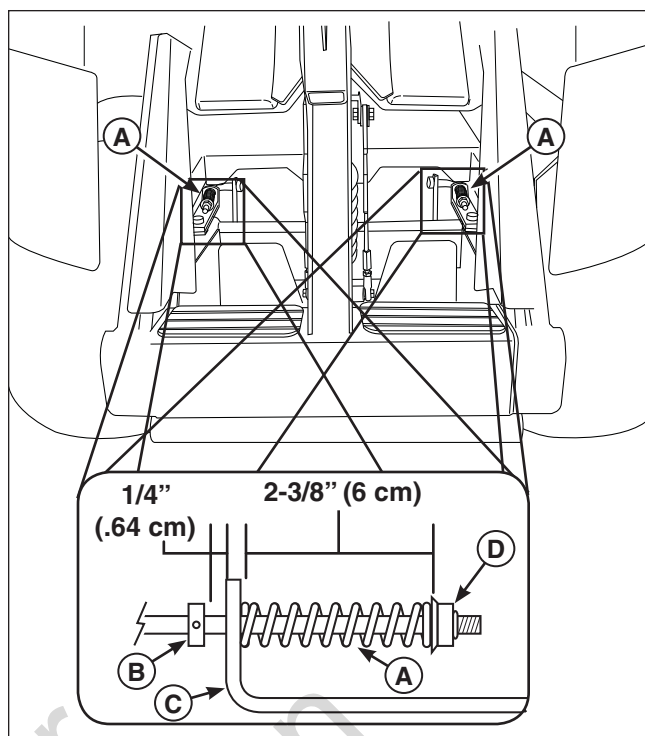

Figure 32. Parking Brake Adjustment
1. Locate the two (2) brake springs (A, Figure 32).
5. Loosen the set collar (B) and slide it away from the back of the parking brake bracket (C).
6. Turn the adjustment nut (D) to compress or release the spring.